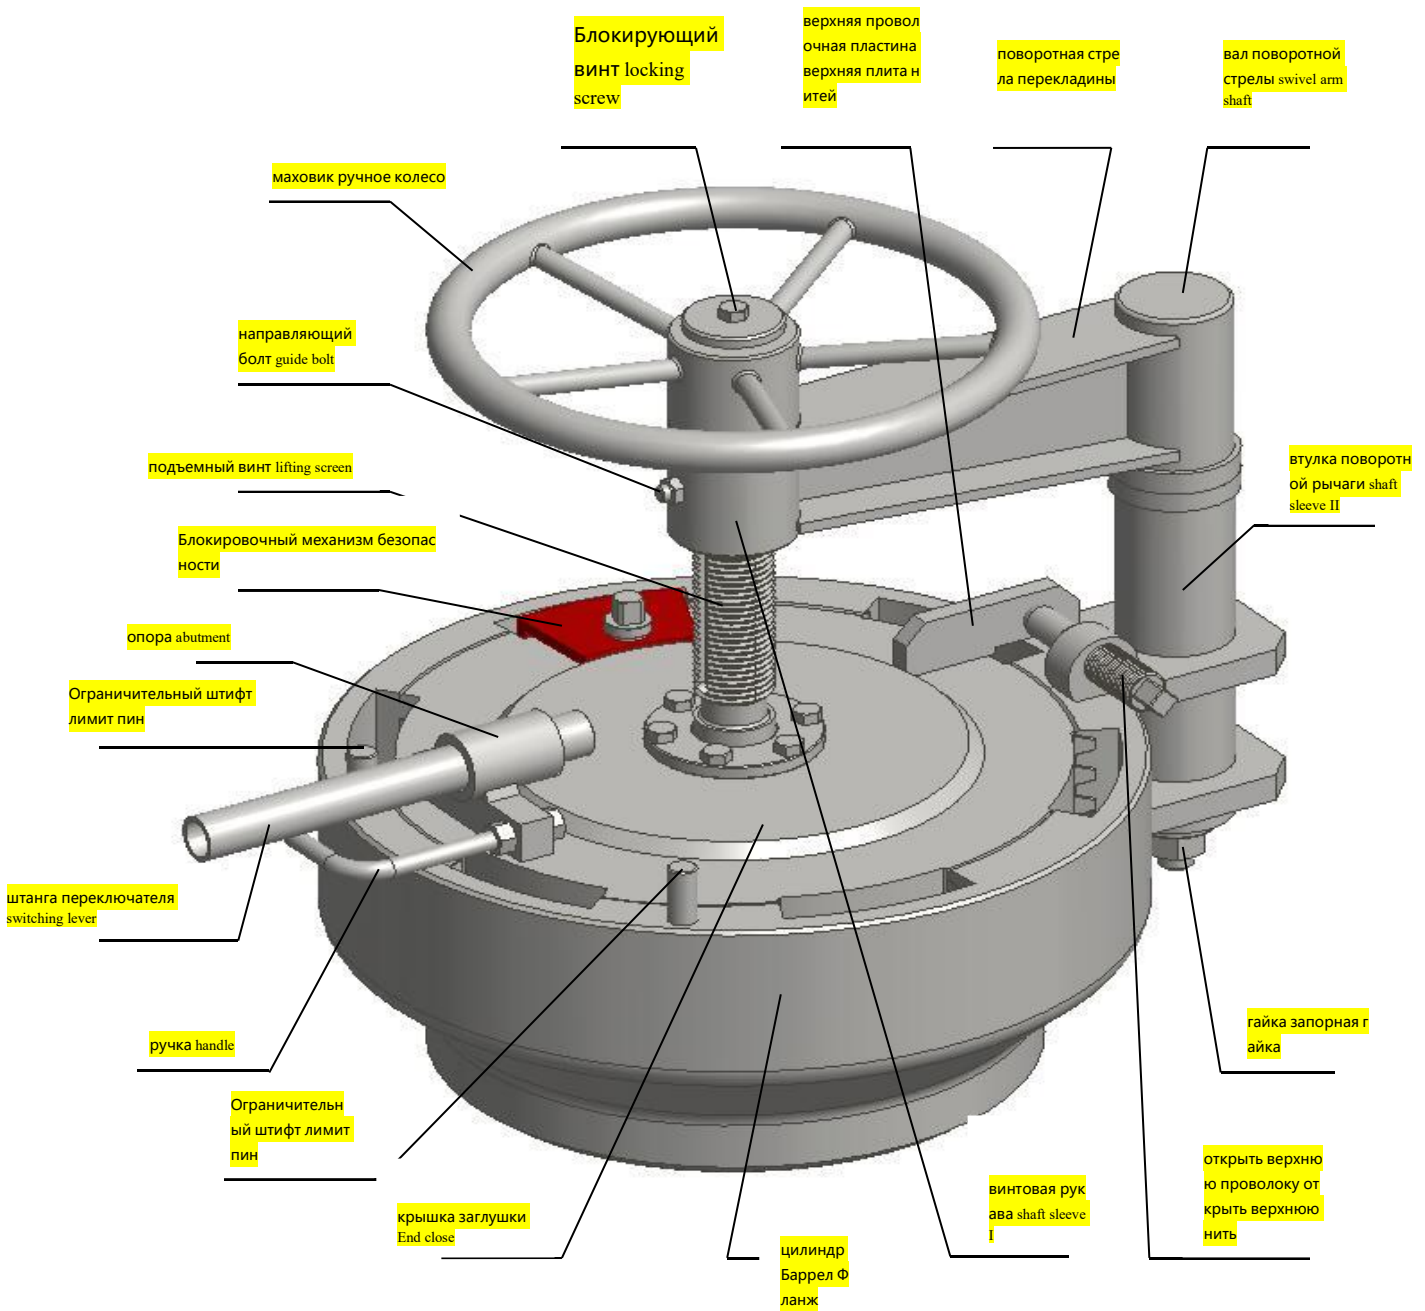

Рисунок 1 (picture 1)
2) Remove the hand wheel center locking screw as show in Figure 1. a. Remove the hand wheel center locking screw b. Remove the handwheel c. Remove the locking nut at the lower end of the swivel arm shaft d. Loosen the guide bolt;